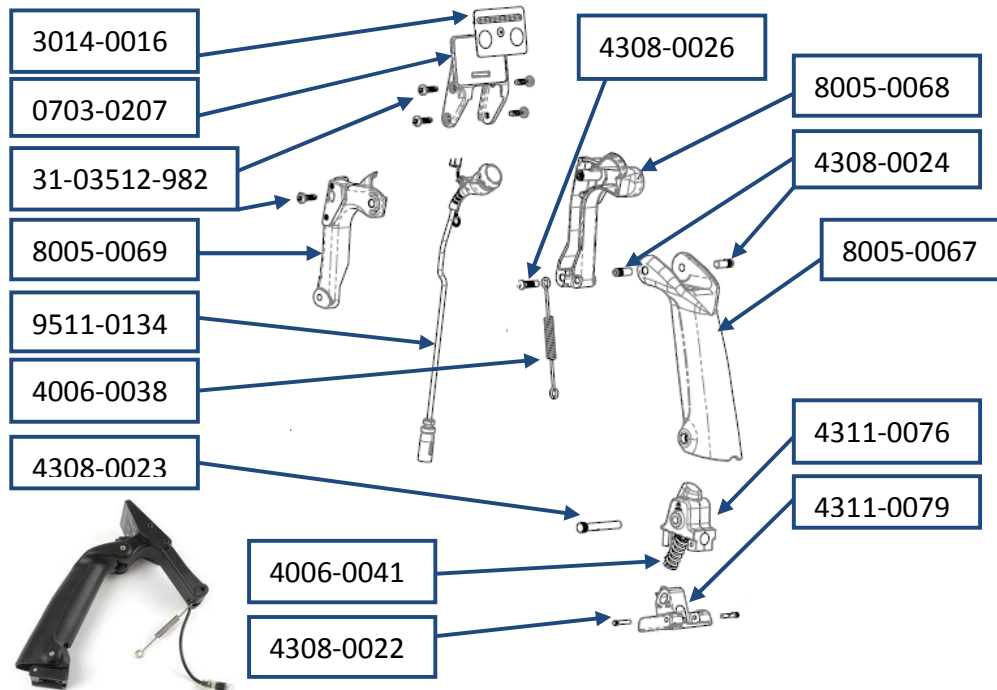

Figure 79: Handle Parts
a. The handle assembly is a line replaceable unit and Figure 79 illustrates the major parts of the handle.